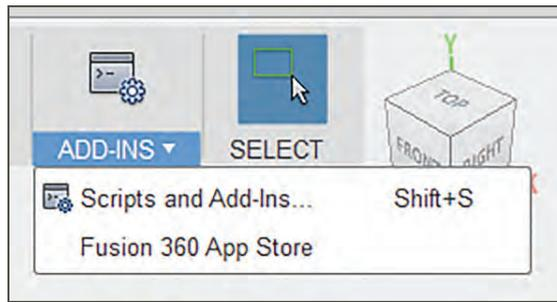

FIGURE 13-17: Scripts And Add-Ins
- ▶ **Add-Ins:** This menu provides access to, and lets you run, scripts and add-ins (Figure 13-17). Create, edit, run, stop, debug, and manage scripts (apps that run and disappear when done) and add-ins (apps that run each time Fusion starts up). You can also access the Fusion App Store, which has free and for-pay apps.